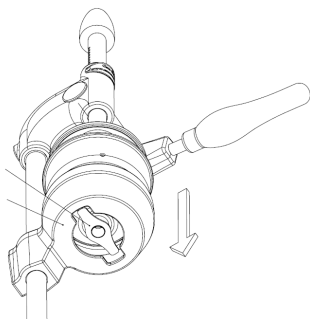

Figure 7
- Place the Bowl (43-54) into the Bowl Pool (42-53) as in Figure 7.